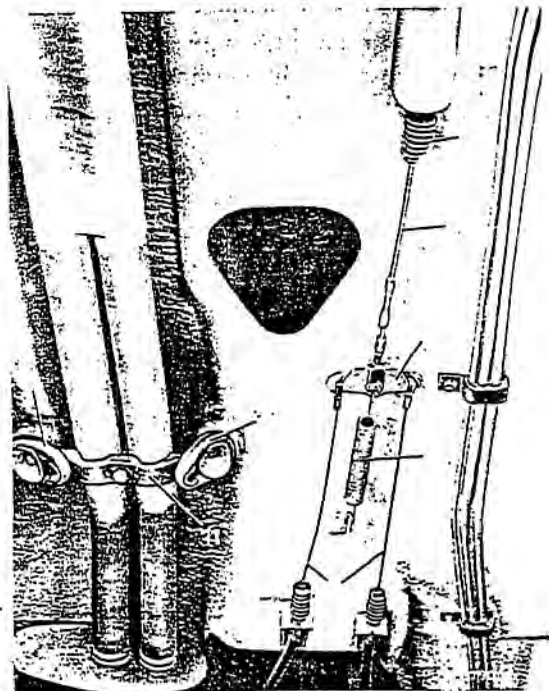

Fig. 49-1/2
7. Attach the rubber rings to the main muffler and on cars with dual-pipe exhaust system fit the insulating plates and screw on the hexagon nuts (Figs. 49-1/4 and 5).